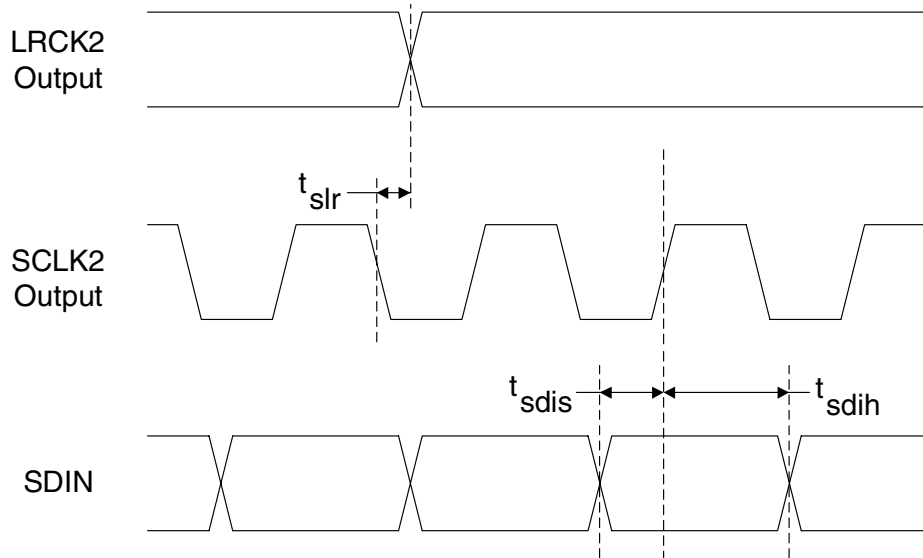

Figure 5. Master Mode Timing - Serial Audio Port 2
26. See figures 5 and 6 on page 24.